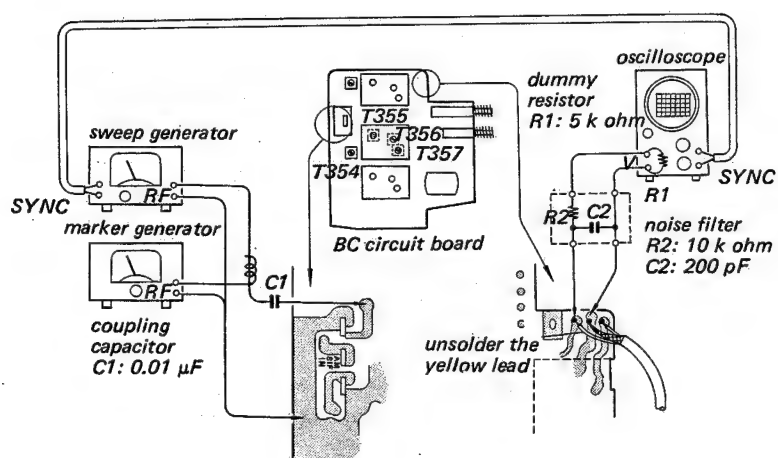

Fig. 25
2. Unsolder the tuner output lead from signal circuit board (BC).
3. Connect a dummy resistor (5k-ohm) across the scope input terminal through a noise filter consisting of a 10k-ohm resistor and a 200pF capacitor as shown in Fig. 25.
4. Connect a sweep/marker generator to the AM-SIF input to the signal circuit board (BC) through a 0.01μF capacitor as shown in Fig. 25.